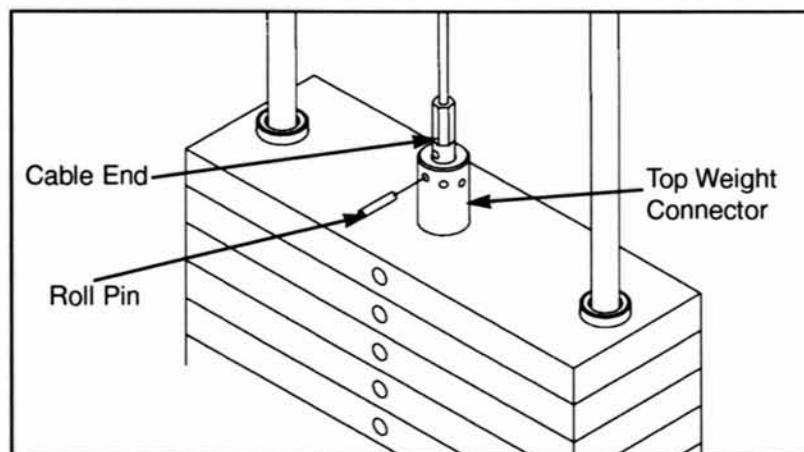

Figure 11
1. Slide protective rubber cover up cable to expose cable/plate junction. Note roll pin location in cable fitting. See Figure 11.